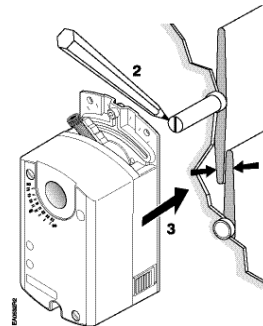

Figure 6. Mounting Actuator to Damper Shaft.
**NOTE:** The GDE actuator comes with a factory installed 1/2-inch shaft guide. If shaft size is 1/2-inch, proceed with Figure 6.
4. Proceed to Figure 6.
2. Mount actuator to shaft per Figure 6.